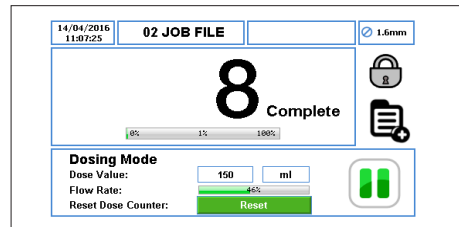

Figure 15 Home Screen - Pause Mode
- ▶ When the pump is running in dose mode, pressing the STOP button, the pump will be temporarily paused as per Figure 15.